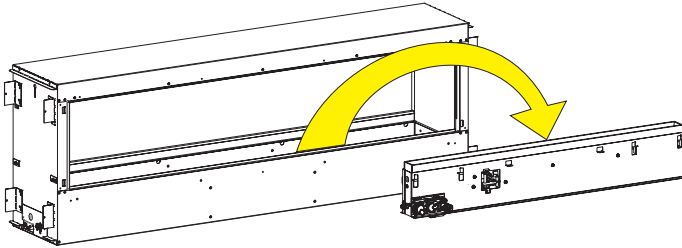

Figure 37
1. Remove burner box from fireplace. **See Figure 37.**